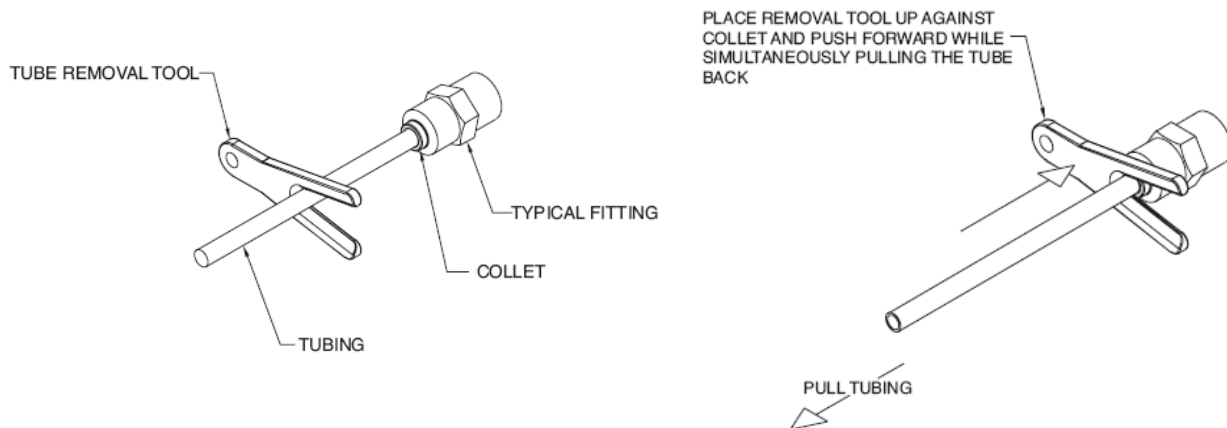

Figure 3-15. Push-To-Connect Tubing Removal
1. Using the tool provided (AYX23), push the collet toward the body while pulling on the tubing to release the tube, as shown in Figure 3-15.